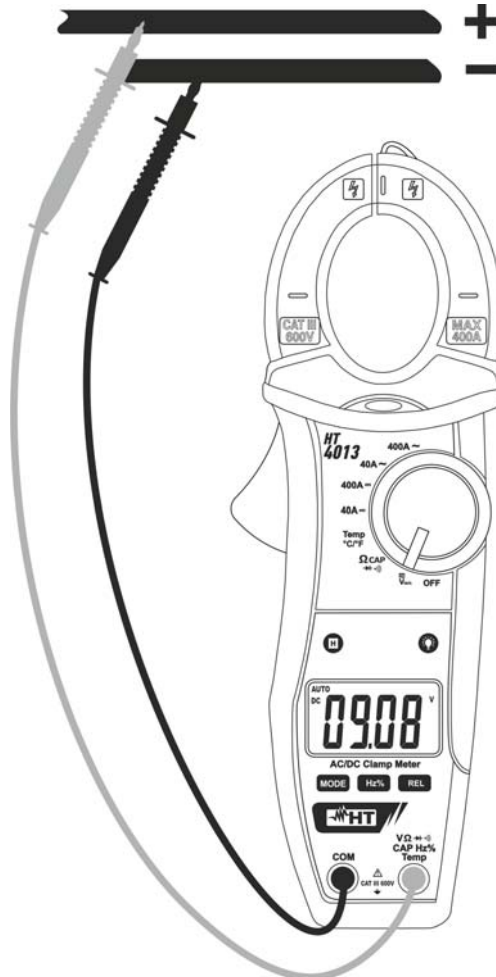

Fig. 3: Use of the clamp for DC voltage measurement
3. Position the test leads in the desired points of the circuit to be measured (see Fig. 3). The display shows the value of voltage.
5. When symbol "**-**" appears on the instrument's display, it means that voltage has the opposite direction with respect to the connection in Fig. 3